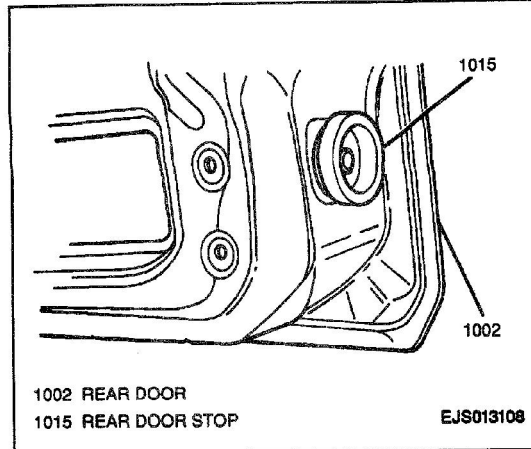

Figure 13—Rear Door Stop
- Rear door stop to rear door; secure with one mounting bolt (Figure 13).